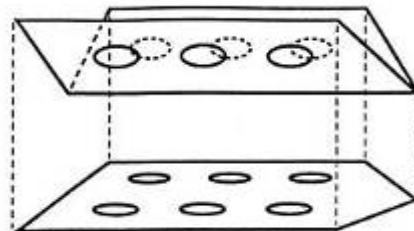

Figure 1
- 5.2.1 Determine the dimension of the surface of the test sample by projecting onto a plane as shown in figure 1 and by measuring. Any hole larger than  $10 \text{ cm}^2$  shall be subtracted from the total surface.